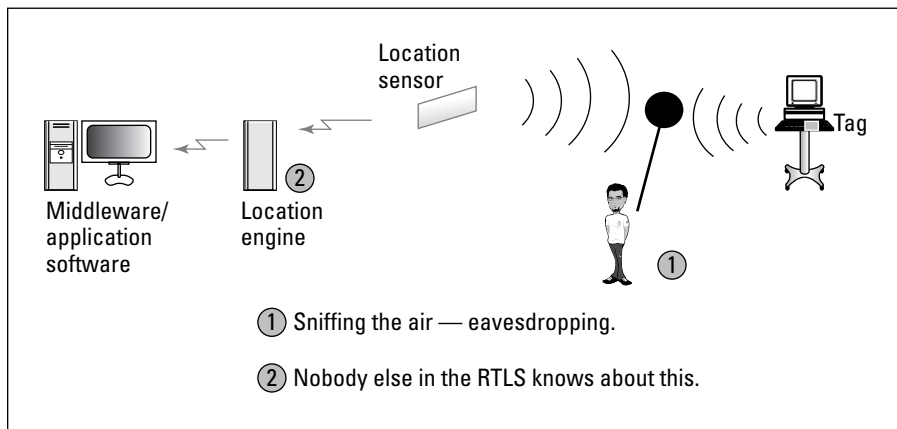

Figure 15-3:
- ✔ **Eavesdropping:** The attacker monitors the message exchange between the tag and the location sensor or other elements of the RTLS (see Figure 15-3).